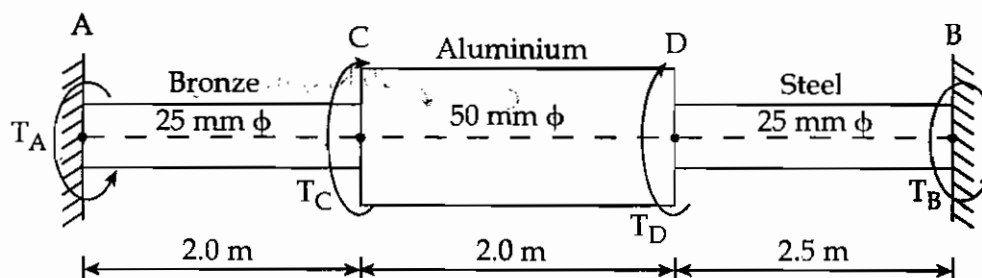

Figure 6
- (b) A shaft composed of segments AC, CD and DB is fastened to rigid supports and loaded as shown in Figure 6, for bronze $G = 35 \text{ GPa}$, Aluminium $G = 28 \text{ GPa}$ and for steel $G = 83 \text{ GPa}$. Determine the maximum shearing stress developed in each segment. $T_C = 300 \text{ N.M}$ and $T_D = 700 \text{ N.M}$. 10